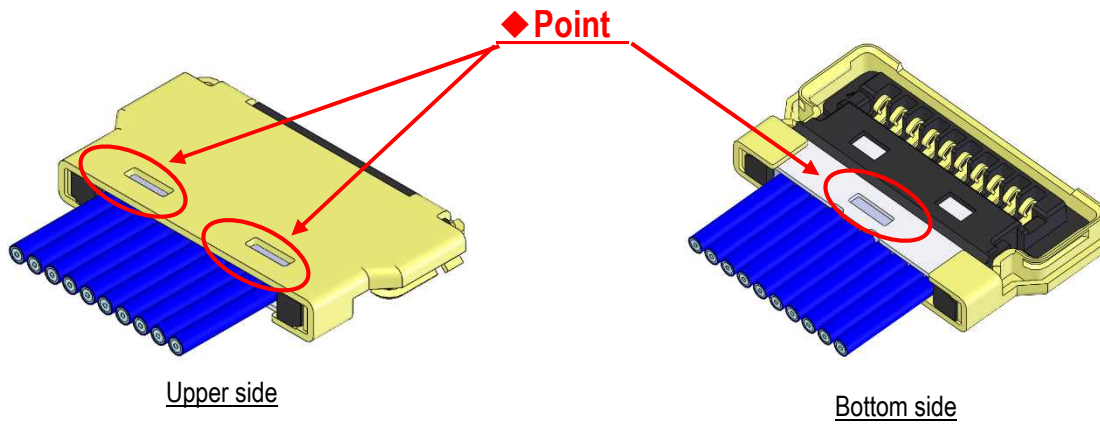

Fig. 8 Soldering of SHELL A and GND BAR
8. Soldering SHELL A and GND BAR with the soldering iron at all designated points is recommended. (Fig.8◆point)